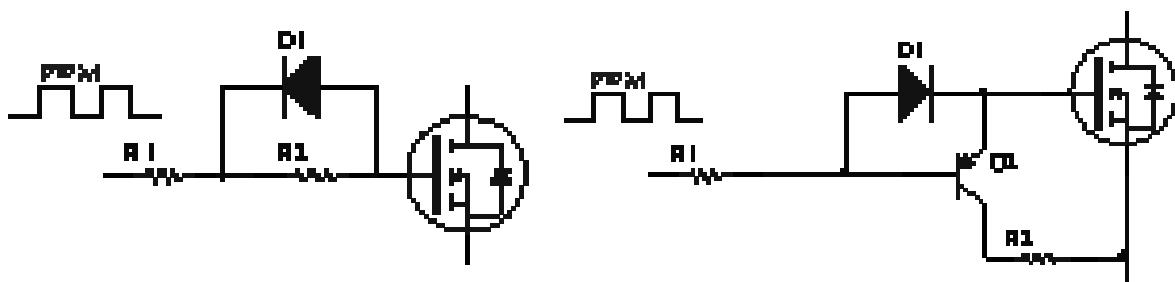

Fig.7 Fig.8
- a, Figure 7 drive mode, GreenMOS™ current between 2A ~ 4A, the resistance $R1 + R2$ increases the approximate range of 200Ω ~ 400Ω, the resistance $R1$ increases the approximate range of 100Ω ~ 200Ω
b, Figure 7 drive mode, GreenMOS™ current between 5A ~ 8A, the resistance $R1 + R2$ increases the approximate range of $150\Omega \sim 450\Omega$, the resistance $R1$ increases the approximate range of $75\Omega \sim 150\Omega$
c, Figure 7 drive mode, GreenMOS™ current between 11A ~ 20A, the resistance $R1 + R2$ increases the approximate range of $100\Omega \sim 200\Omega$, the resistance $R1$ increases the range of $51\Omega \sim 150\Omega$
d, Figure 7 drive mode, GreenMOS™ current between 23A ~ 78A, the resistance $R1 + R2$ increases the range of $51\Omega \sim 100\Omega$, the resistance $R1$ increases the approximate range of $10\Omega \sim 51\Omega$